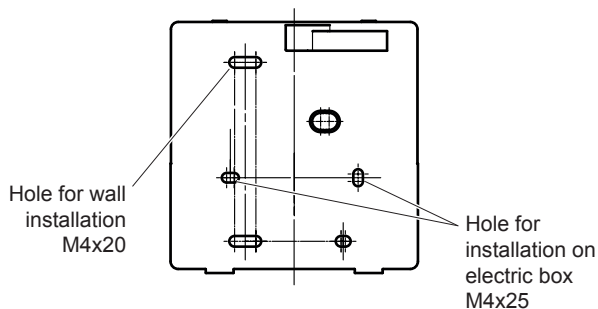

Fig. 5.3
3. Use two M4x25 to install the rear cover on the electric box (switch-holder) and then use a M4x20 GB950-86 screw to fix it to the wall. (Fig.5.3)